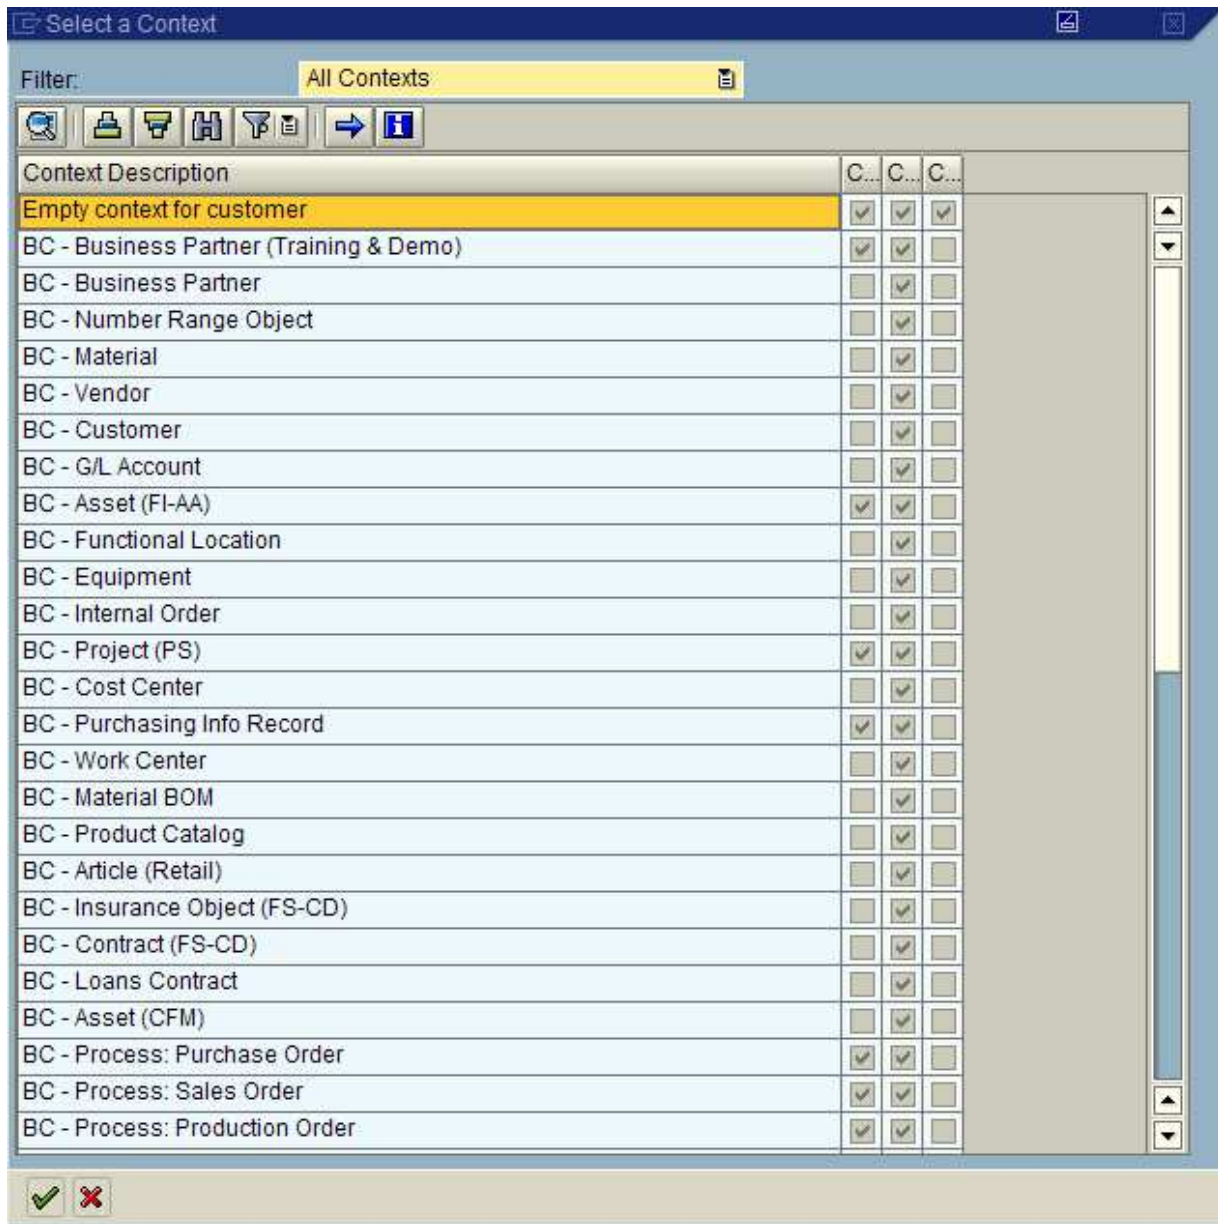

Figure 44: To copy one or more specified tables, choose the *Empty context for customer*
- In the *Create BPL Scenario* activity, choose the *Empty context for customer* (see Figure 44).